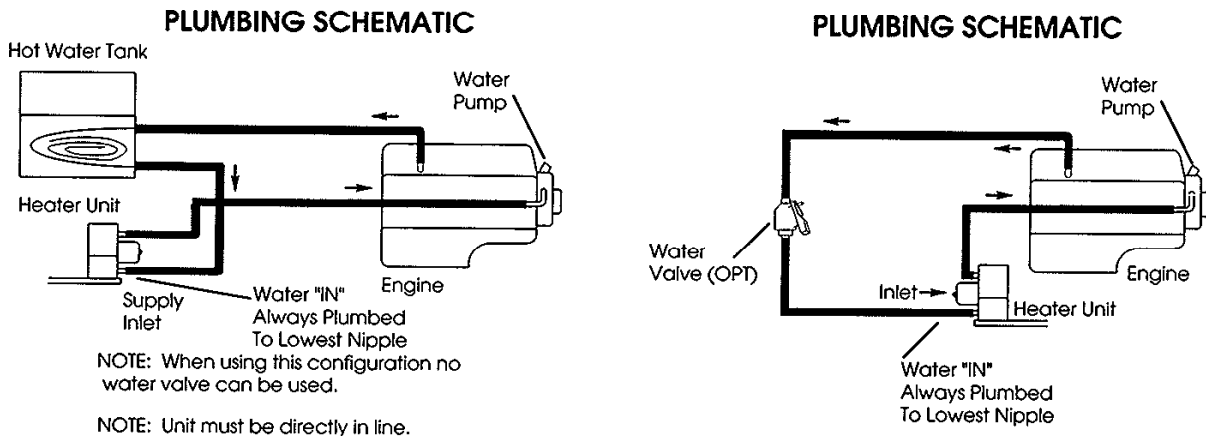

Figure 2
- If the boat is equipped with an engine heated hot water tank, it is possible to add the Red Dot heater in series with this unit. The diagram below shows various installations: (See Figure 2.)